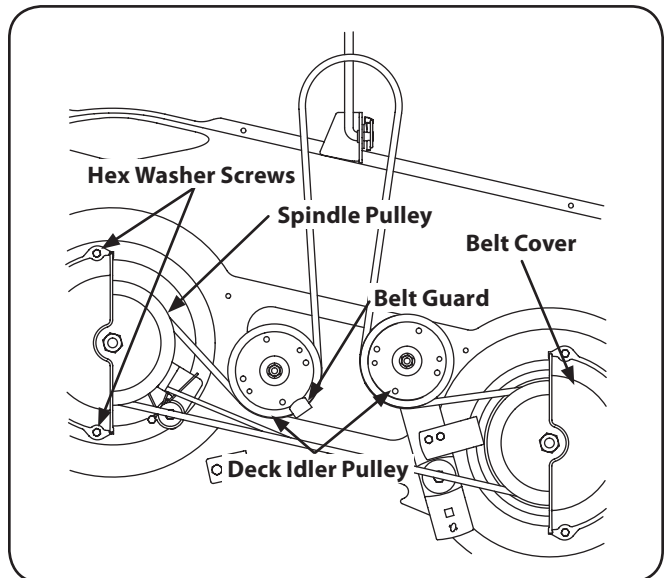

Figure 7-6
- Remove the belt covers by removing the hex washer screws that fasten them to the deck. See Fig. 7-6.
4. Carefully remove the deck belt from around the two spindle pulleys and the two deck idler pulleys. See Fig. 7-6.